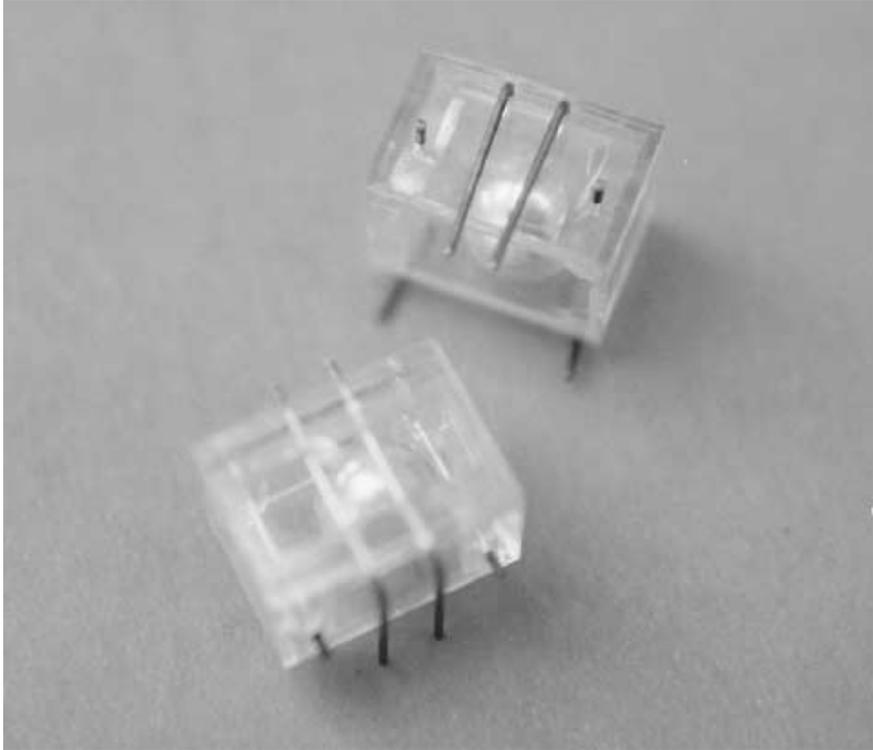

FIGURE 41.1 A typical ball-in-cage switch.
- The ball-in-cage (see Fig. 41.1) is an all-mechanical switch popular in pinball machines and other devices where small changes in level are required. The switch is a square or round capsule with a metal ball inside. Inside the capsule are two or more electrical contacts. The weight of the ball makes it touch the electrical contacts, which forms a switch. The capsule may have multiple contacts so it can measure tilt in all directions.